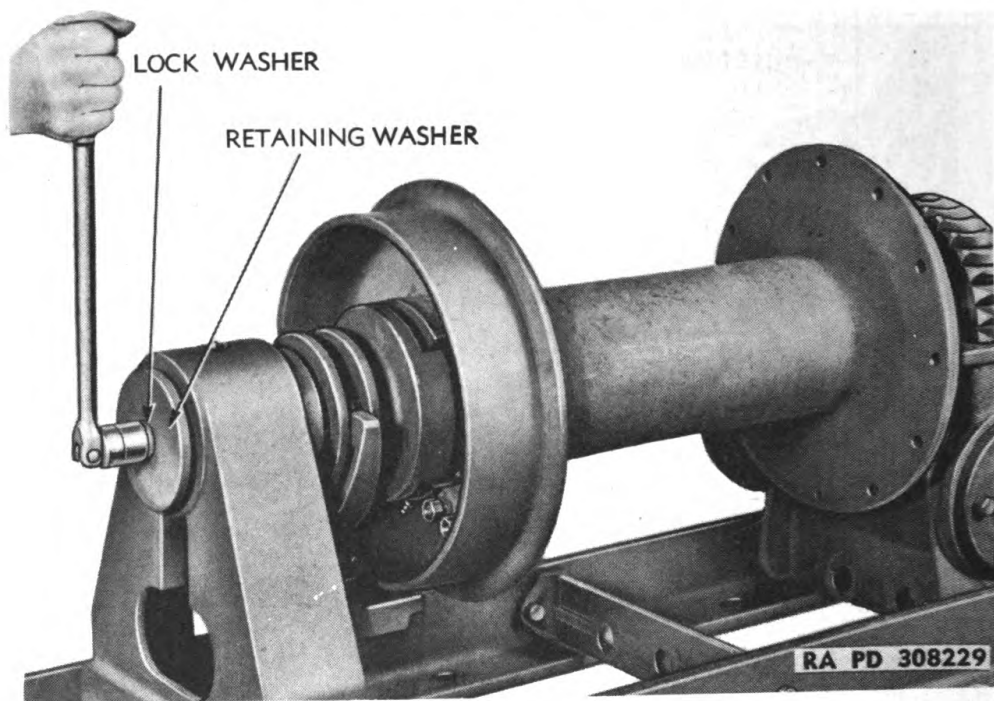

Figure 127 — Installing Drum Shaft Retaining Washer
(2) Install two large pivot bolts in bottom of end frame and winch base but do not tighten bolts. Install retaining cap screw with large thrust washer and lock washer in clutch end of shaft (fig. 127).